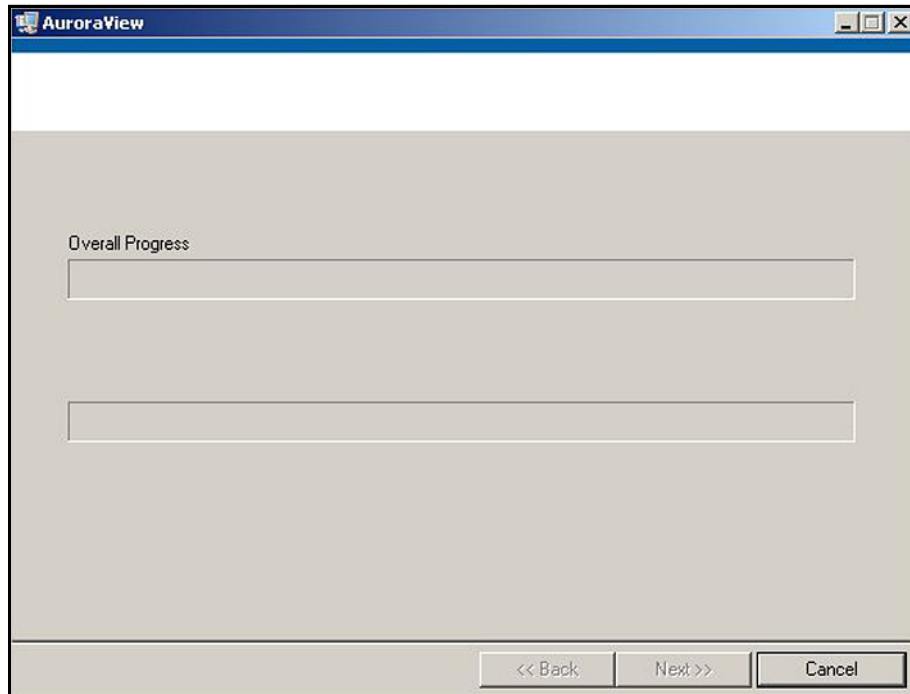

Figure 26: Overall Progress
8. During installation, the screen shown in *Figure 26* below appears.